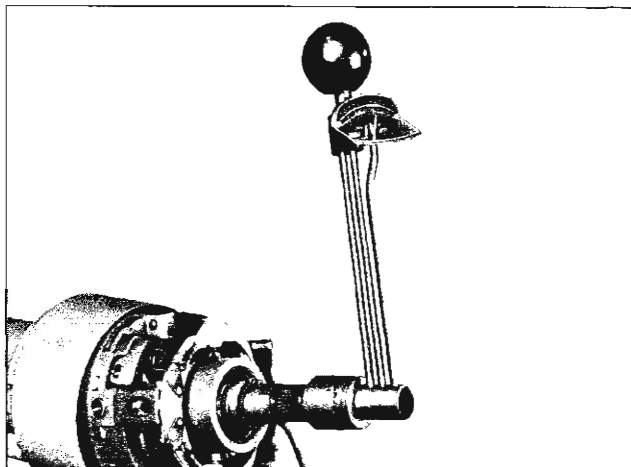

Fig. 40—Checking Steering Shaft Torque
18. Check the torque of the steering shaft in each tilt wheel position. Torque should be from 35-45 inch ounces. If the torque is too high repeat step 15, being careful to properly compress the spacer. If torque is too low the spacer has been over-compressed and must be replaced (fig. 40).